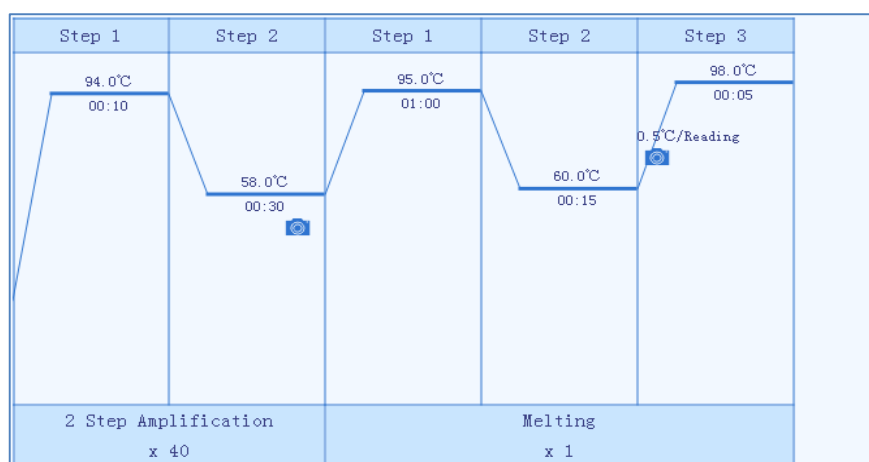

Figure E-4.4 Run Monitoring Diagram - Temperature program
- If user select the **Temperature** option in the run monitoring option bar, run monitoring diagram will display the temperature program of the current experiment, as shown in figure E-4.4.